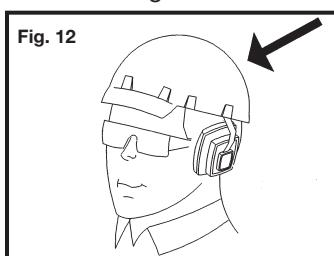

Fig. 12
**19. Operator and bystanders should wear hard hats** to safeguard against possible injuries. Fig. 12.